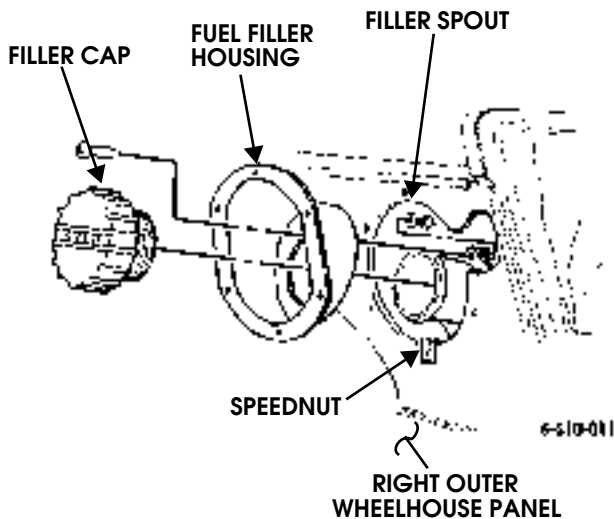

Figure 10-122: Fuel Filler Housing - Main Tank
1. Remove filler cap from filler spout (Figure 10-122).
1. Pull filler cap through fuel filler housing and install housing on right outer wheelhouse panel with five screws. Tighten screws to 18 lb in. (2 N•m) (Figure 10-122)